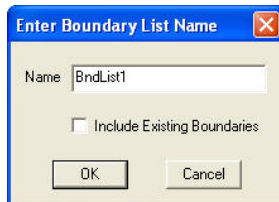

Figure 14-90. Enter Boundary List Name
- Method – enable one of three methods: *Convex*, *Tight*, or *Closed Boundary* (Figure 14-90 on page 14-72).
The *Enter Boundary List Name* dialog box appears (Figure 14-90).